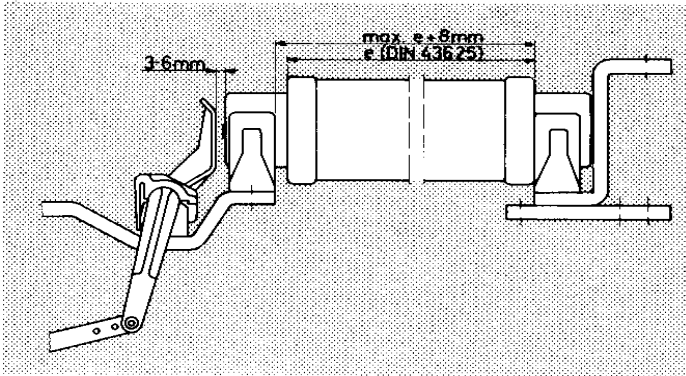

Fig. 5
2.3.2 Mounting of fuse tripping. Fig. 5
- a) Lower part of bearing (8) is fixed to terminal (10) by one screw(9)
- b) The lever(13) together with the fuse trip flap (15) are placed in the lower bearing(8) and locked by means of upper part of bearing(14)
- c) The released rod(11) is mounted in the lever (13)
- d) The drive ring (2) is mounted to the release shaft(1) on the RHS
- e) The bearing(5) and washer(6) is mounted on the release shaft(1) on the LHS and secured by split-pin(7)
- f) Disc.(3) is mounted to the release shaft(4) of the mechanism
- g) The release rods(11) are mounted onto the hooks(12) on the release shaft(1)
- 1) The split pin(7) is removed and the release shaft(1) together with the drive ring(2) is pushed in the direction of the arrow until the tapped connection is free from disc.(3)
- 2) The release rod(1) with the drive ring(2) is turned and adjusted to a hole in the disc(3), while the adjustment of the fuse trip flap(15) and its distance to the strike pin of the fuse link must be checked(Fig. 5).